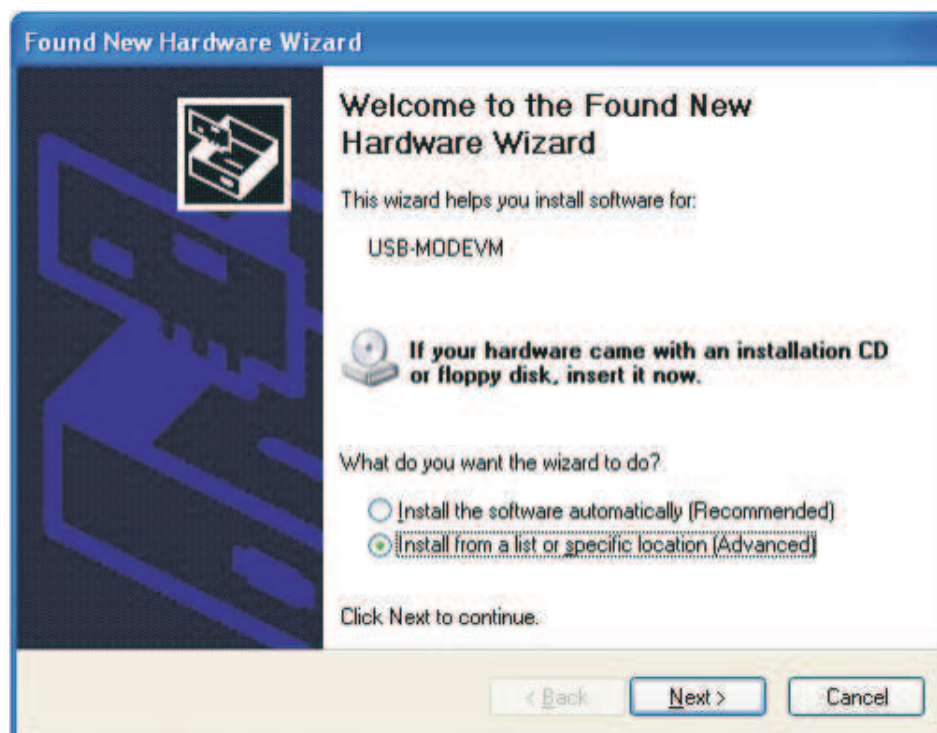

Figure 2. Found New Hardware Wizard Advisory Screen
10. If this is the first time a TPA6140A2EVM is plugged in after installing the software, follow the Windows dialog (Figure 2), questions, and selections: